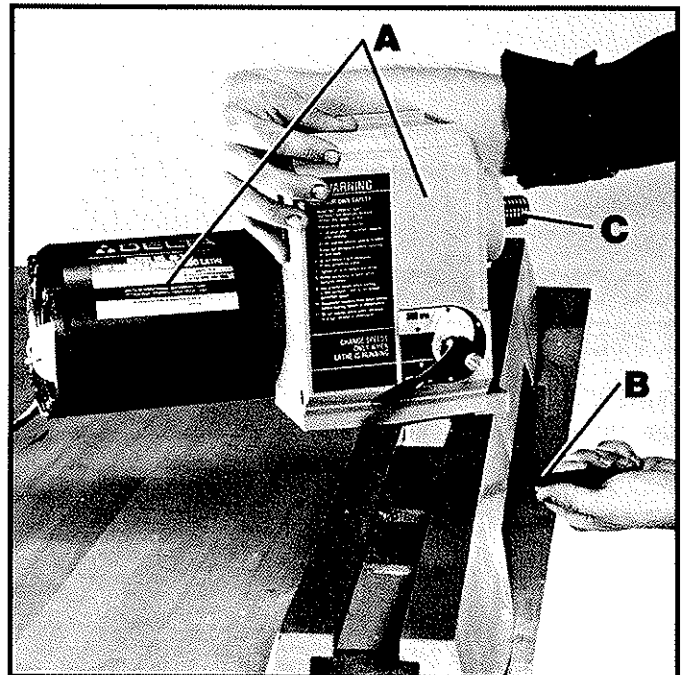

Fig. 19
1. To reposition headstock (A) Fig. 19, for outboard faceplate turning, loosen locking screw located directly underneath headstock with wrench (B) supplied, just enough to allow you to slide headstock (A) to the center of the lathe bed.
2. With headstock (A) Fig. 19, in position at the center of the lathe bed, loosen the headstock locking screw again, just enough to allow you to rotate headstock (A) 90 degrees to the right until spindle (C) is facing out. Then tighten screw underneath headstock (A) with wrench (B).